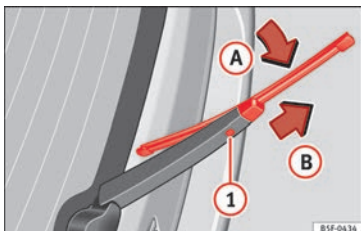

Fig. 81 Changing the rear wiper blade
- Turn the blade slightly »» Fig. 81 (arrow A).
- Hold down the release button ❶ while gently pulling the blade in the direction of arrow B.
- Insert a new blade of the **same length and type** in the rear wiper arm in the opposite direction to the arrow B and hook into place button ❶.